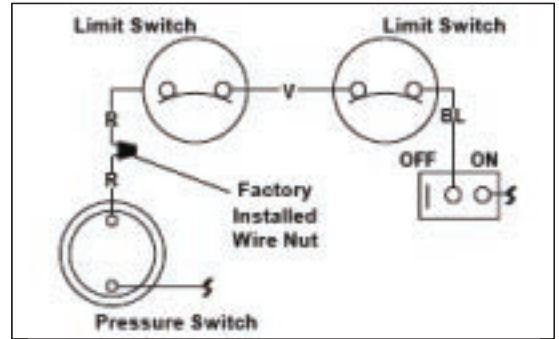

Figure 3-17 — Wiring Before Modification
2. Remove factory-installed wire connector between two (2) red wires labeled "CONNECTION FOR FIELD INSTALLED CONTROL SWITCH." (See Figure 3-17.)